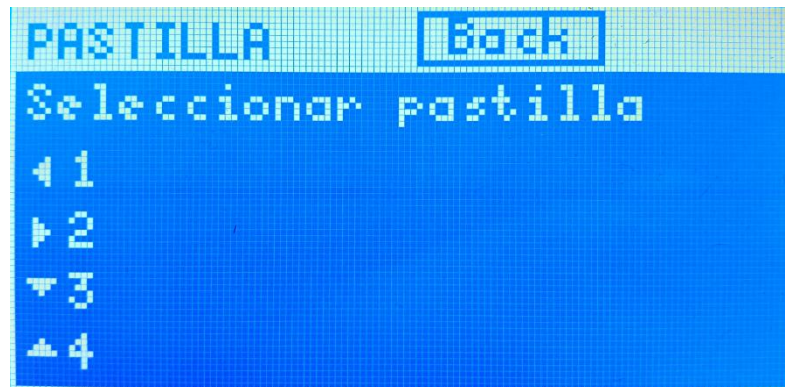

Figure 6- Pickup Selection Screen
2. Select the container where the pills were placed using the corresponding key ↑, ↓, →, ← (Figure 6).